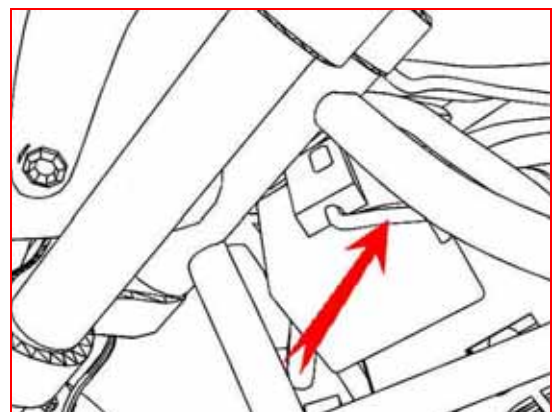

Fig 11
11. Route the TFI harness as shown. The TFI wiring should be between the frame and the OEM harness that goes over the battery negative. (see figure 11)